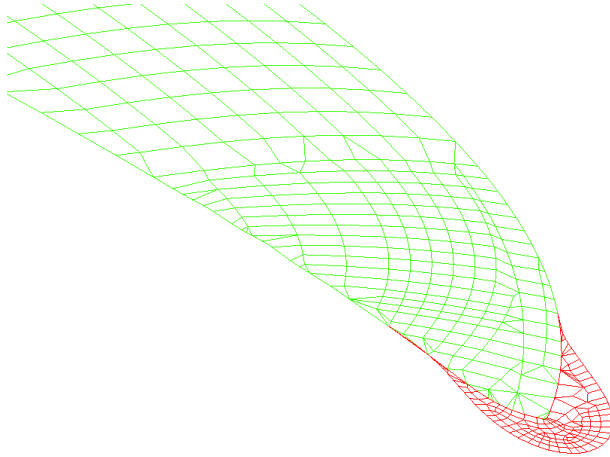

Figure 6.1.45 Corner Smooth
3. After a node is selected at a sharp corner, the program will generate a set of elements around the part boundary to form a circular shape around the corner. Figure 6.1.45 shows the result of a corner smooth operation.